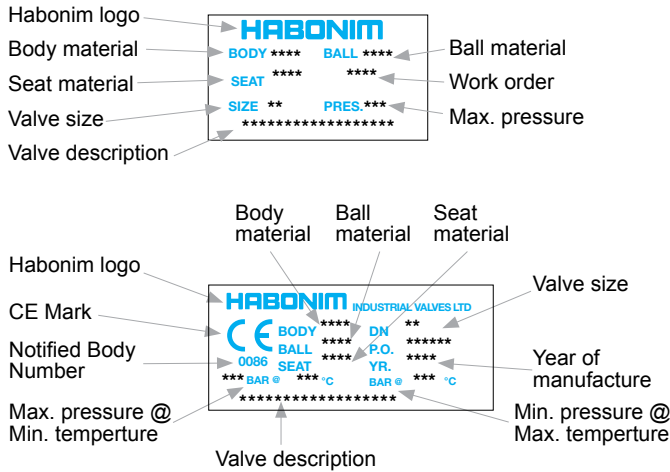

FIGURE 2
- 11.11. Place the body end, and close all body bolts, according to torque (See Table 3), and pattern (See Figure 2).